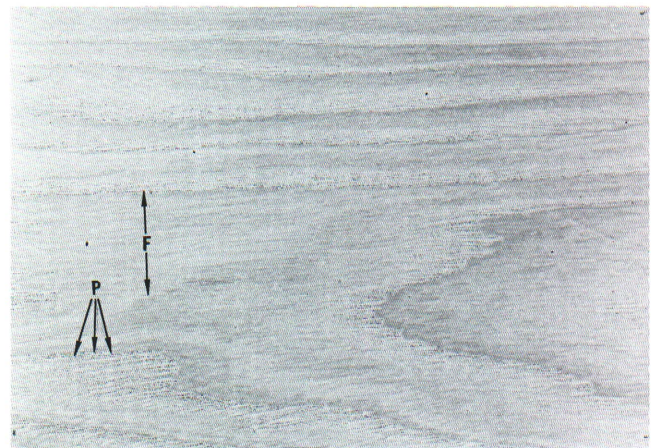

Figure 16—White Ash. Earlywood pores, P, poreless smooth areas, F.
19. Not exceptionally hard or heavy, pores in earlywood in continuous band; on tangential face pores show as wider bands (Fig. 16 and 17) ..... **go to 20**
20. Latewood with isolated 2 celled pores seen on cross section, poreless areas with few striations on latewood radial surface (Fig. 16) ..... **Ash**